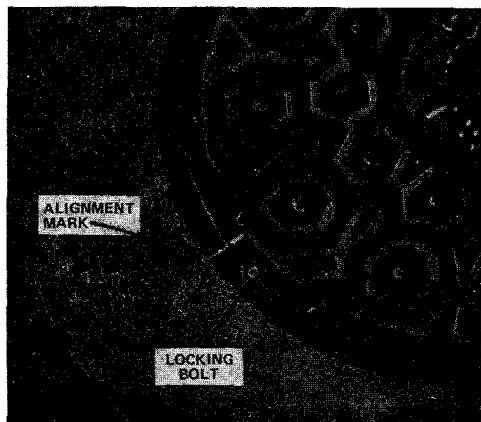

Fig. 43—♦Alignment Marks and Locking Bolt♦
7.03 The replacement procedure for the cover is the same as described in Part 6 except that when the locking cover is seated, the alignment marks on the cover and frame must register to permit replacing the locking bolts (Fig. 43). It is advisable to apply a small amount of grease to the threads of the bolts before replacing them to help prevent difficult removal in the future.